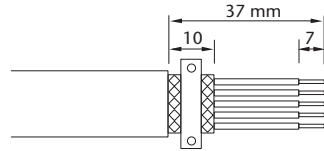

fig. 4
1. Strip the end of the CAN-Bus cable (381 954) (fig. 4).